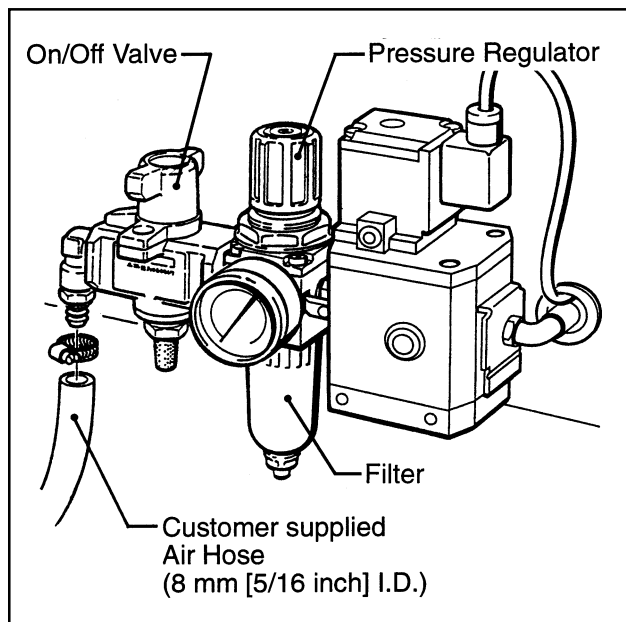

Figure 2-4 – Air Connection
The case sealer requires a 5.2 bar gauge pressure [75 psig] 42 litre/min, @21°C, 1.01 bar [1.5 SCFM] compressed air supply at 27 boxes per minute. As shown in Figure 2-4, an on/off valve, pressure regulator, and filter are provided to service the air supply.
- Connect the main air supply line to the inlet side of the on/off valve using the barbed fitting and hose clamp provided. See Figure 2-4. The customer supplied air hose (8 mm [5/16 inch] ID) must be clamped tightly to the barbed fitting.